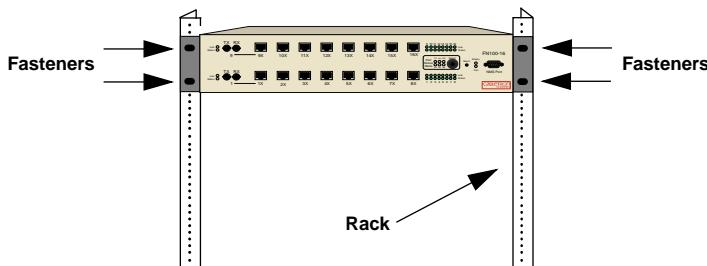

Figure 2-3 Rack-mounting the FN100
3. Secure the FN100 with the rack-mount fasteners by inserting and securing a fastener through each of the four slots in the rack-mount brackets, as shown in Figure 2-3.